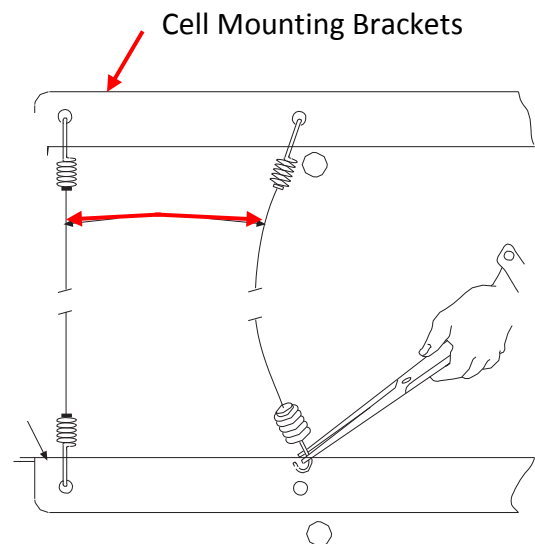

Figure 6-51-2
1. Remove all of the broken wires from the Cell mounting brackets (Refer to Figure 6-51-2).